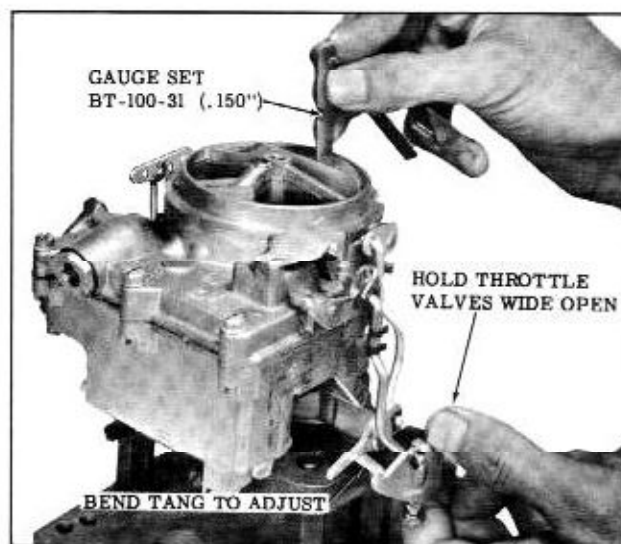

Fig. 8-151 Unloader Adjustment
1. With throttle valves held wide open, check clearance between the top edge of the choke valve and the air horn. (Fig. 8-151)